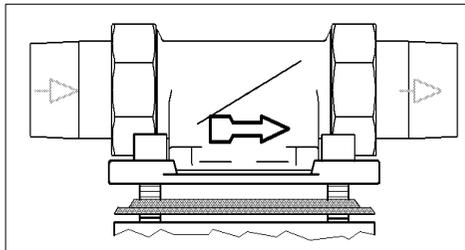

Fig. 2: Fitted Rotating Flange
- Direction of Flow (see fig. 2)